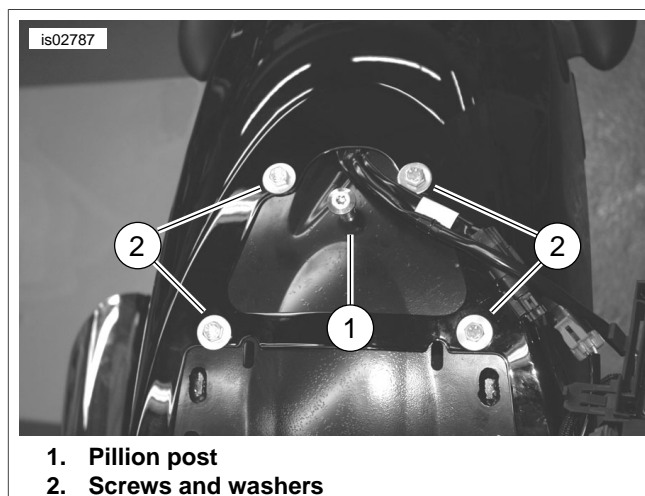

Figure 3. Remove Fender Support Screws and Washers
4. See Figure 3. Remove the four fender support screws and washers (2). Discard screws, but save three washers for re-installation. From under the fender use an allen wrench to hold the lower pillion screw while removing the upper pillion post (1). Save the pillion post and lower washer for reinstallation.